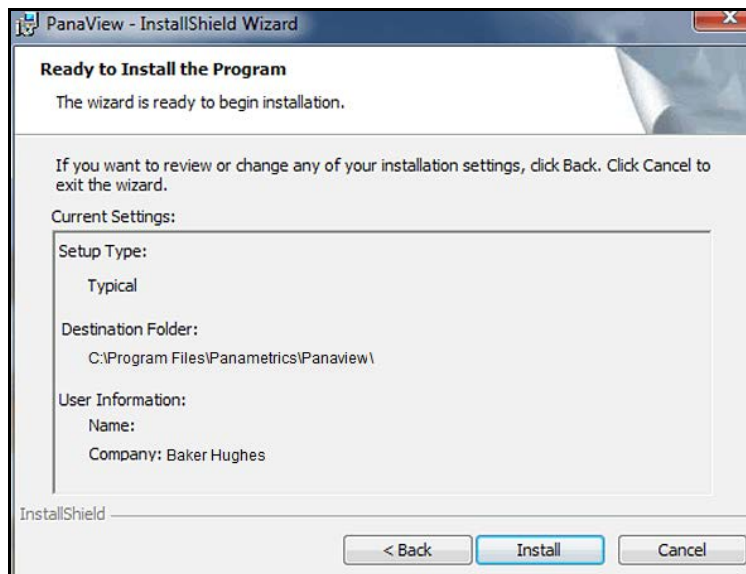

Figure 8: Ready to Install the Program Screen
7. The screen shown in *Figure 8* below lists the entries made at the previous screens. If this information is correct, press the **[Next]** button to begin installing the PanaView files.